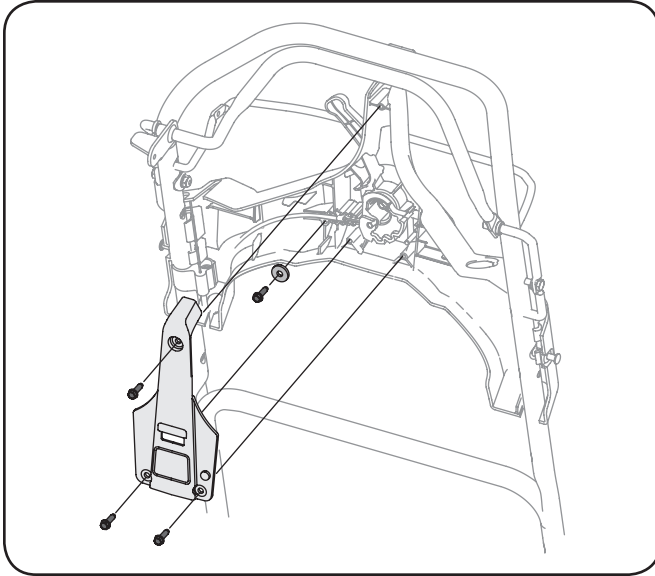

Figure 6-4
5. Remove back cover of speed control housing by removing the three screws securing it to the housing. See Fig. 6-4.
6. Remove screw and flat washer securing cable. See Fig. 6-4.